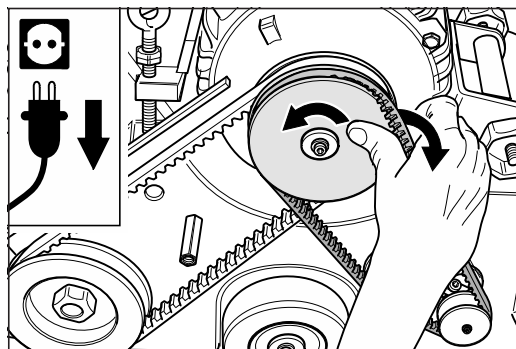

Fig. 31 Remove the fan V-belt.
- 7 Turn the motor pulley and allow the fan V-belt to run off the motor pulley (fig. 31).